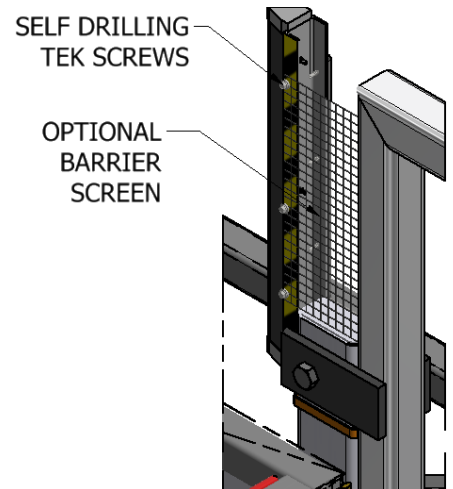

FIGURE 4
- Secure barrier screen to **Arm Open Edge** c-channel using supplied self-drilling tek screws as shown in **FIGURE 4**.